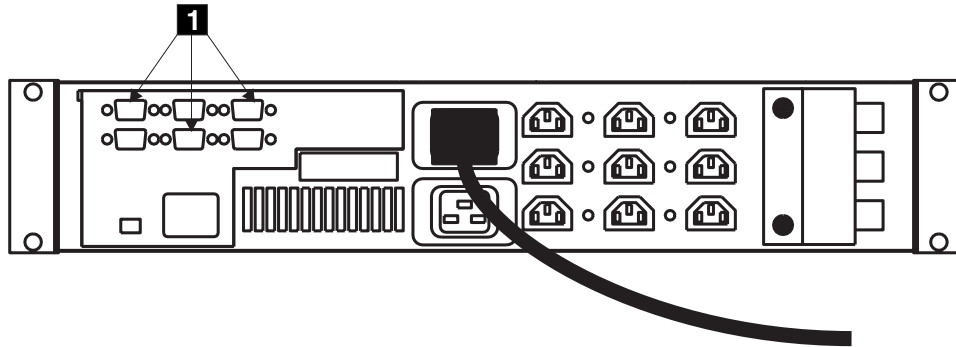

Figure 111. Disconnecting the signal cables
2. At the back of the uninterruptible power supply, disconnect the signal cables, **1** in Figure 111.